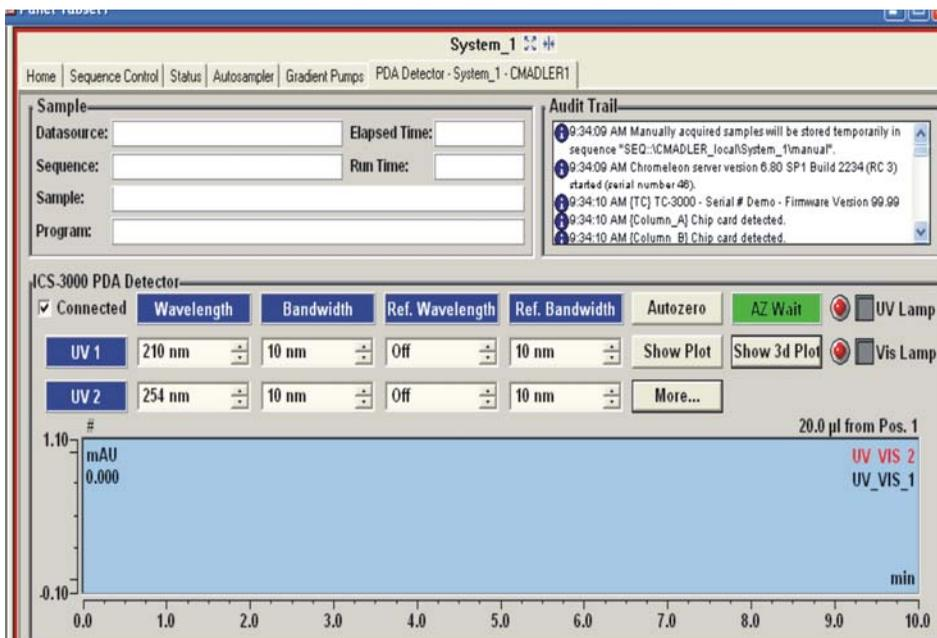

Figure B-10. Example Dionex PDA Control Panel in Chromeleon 6.8
- To display the Dionex PDA Control panel (see Figure B-10), select the **Dionex PDA** tab on the panel tabset. The Control panel provides access to Dionex PDA functions, as well as detailed status and diagnostics information.